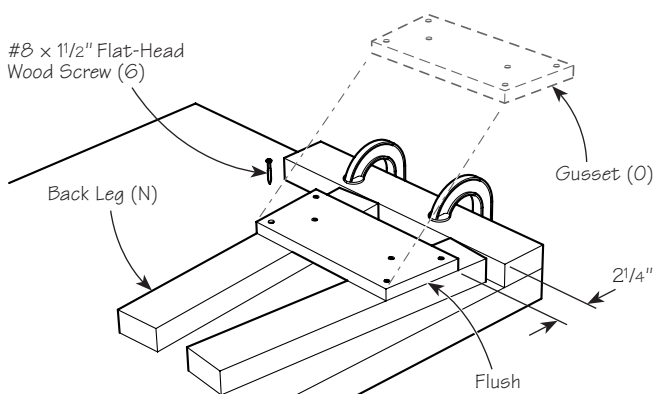

Figure 12: Optional folding legs layout.
1. **Make the leg sub-assembly.** Make the alternative legs according to **Drawings N** and **R**. The back legs (N) will eventually require a compound angle on each end but, to start, just cut to the length shown on **Drawing N**. Make the gusset (O) according to **Drawing O**. Lay out the back legs as shown in **Figure 12**. Place the gusset as shown and transfer screw hole locations. Trace the gusset location onto each leg. Place the gusset aside and drill pilot holes 3/4" deep for #8 wood screws where marked on the legs. Apply adhesive (white or yellow carpenter's glue) and secure gusset with six #8 × 1 1/2" flat-head wood screws.